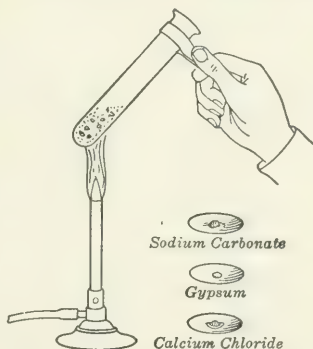

Fig. 46. Testing substances for water of crystallization.
c. In separate dry test tubes warm gently (Fig. 46) a few crystals of each of the following substances: potassium chlorate, potassium nitrate, potassium alum, zinc sulphate, and sodium sulphate.